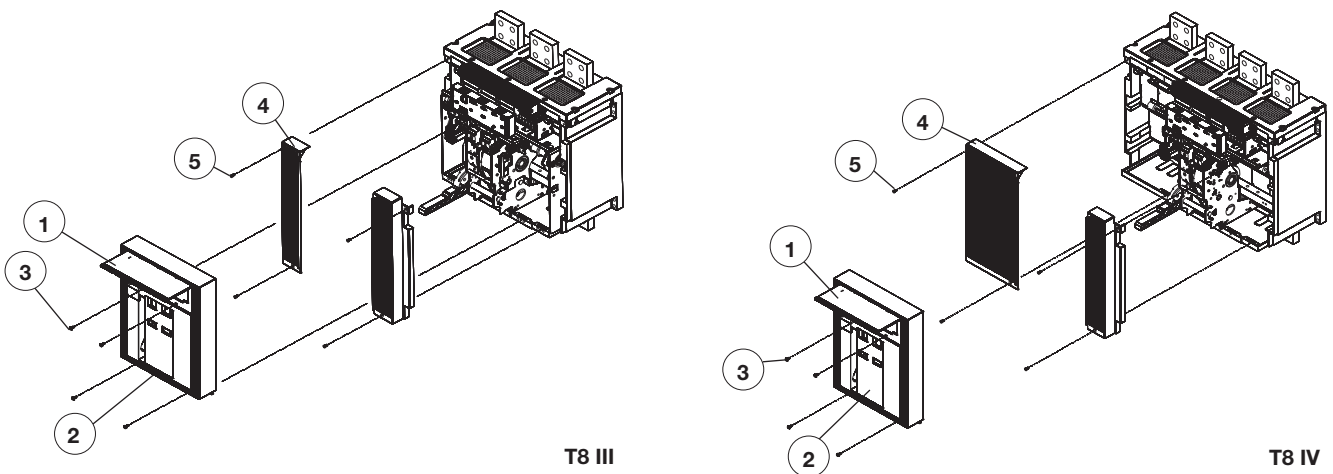

Fig. 19
- Remove the flange (1) of the release as shown in figure 19.
- Remove the front escutcheon plate (2) by removing the four screws (3).
- Remove both the side guards (4) by removing the front screws (5).